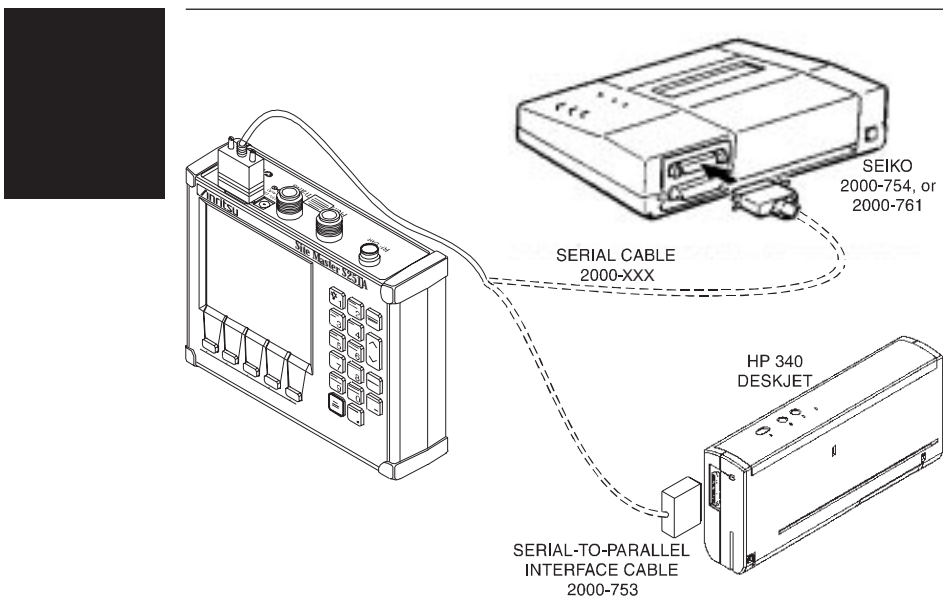

Figure 2-9. Printer Setup
Printing is accomplished with any of the following printers: the Seiko DPU-411 thermal printer, the Seiko DPU-414 thermal printer, or the Hewlett Packard DeskJet 340 ink jet printer. Figure 2-9 shows a setup diagram for these two types of printers.
- Step 1. Connect the printer as shown in Figure 2-9.